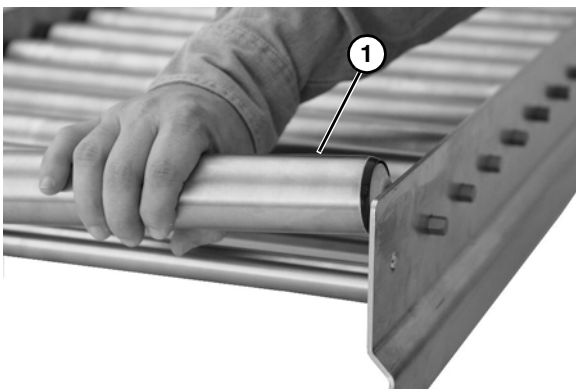

Figure 13
2. Lift roller out (**Figure 13, item 1**).